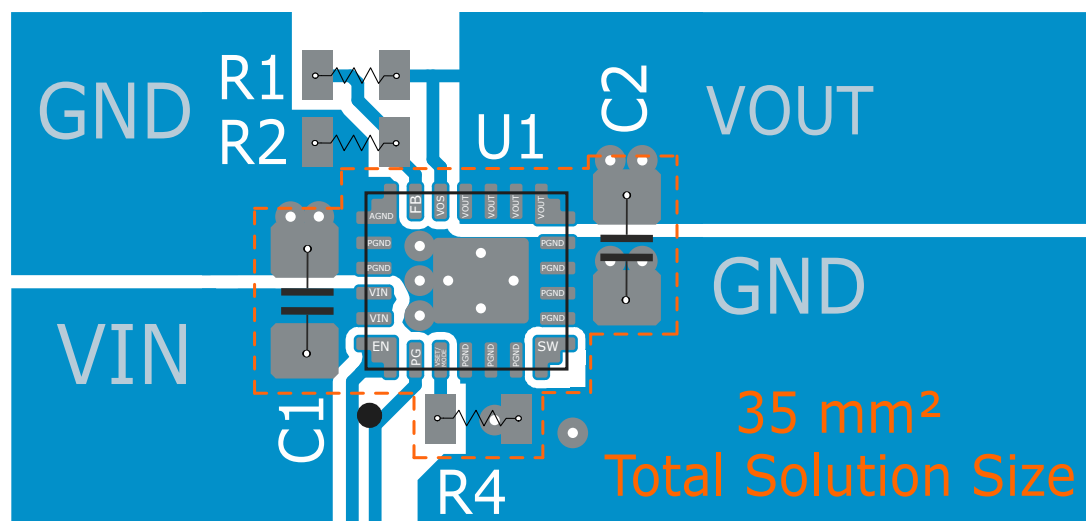

图 9-34. Layout Example
- Refer to Figure 9-34 for an example of component placement, routing, and thermal design.